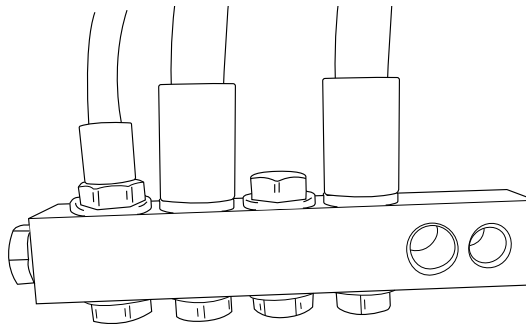

Figure 2 Air Manifold
3. Extend the tubing to the Air Manifold (Figure 2) in the floor junction box.